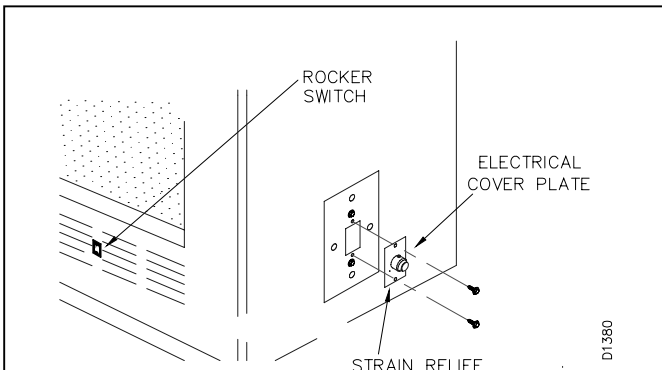

Figure 6a FAN SWITCH AND STRAIN RELIEF
A fan kit assembly is preinstalled in this fireplace. Use of blowers or fans other than manufactured by DESA voids the warranty. The fan is operated by pressing the rocker switch located at the lower right hand corner of the fireplace face. Fan kit electrical connections are made through the electrical cover plate located on the side of the fireplace as shown in figure 6a.
- ii. Remove electrical cover plate (with strain relief) from the fireplace by removing the two sheet metal screws as shown in figure 6a.